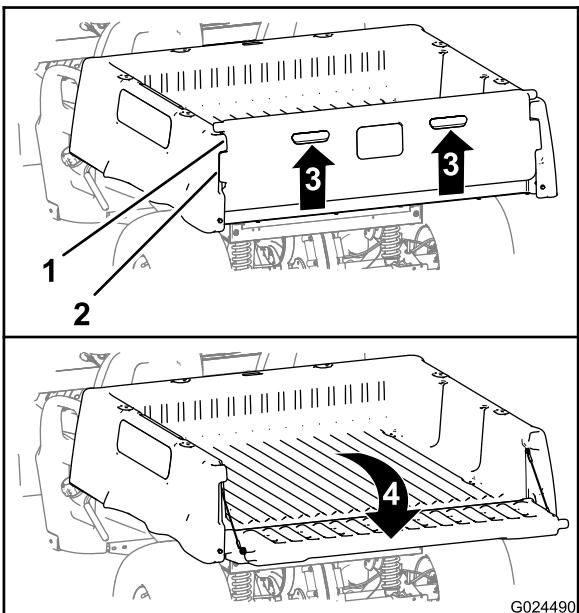

Figure 11
2. Lift up on the finger pulls at the back panel of the tail gate (Figure 11).
3. Align the lock flanges of the tailgate with the openings between the tailgate flanges of the cargo box (Figure 11).
4. Rotate the tail gate rearward and down (Figure 11).
6. Rotate the tailgate up and forward until the lock flanges of the tailgate are flush with the tailgate pocket in the cargo box (Figure 11).
7. Lower the tailgate until it is seated in the back of the cargo box (Figure 11).